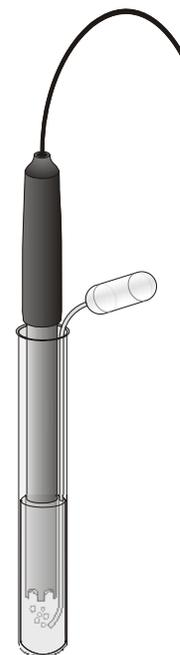

Figure 4
14. Insert the long-stem pipet labeled “CO₂” into the test tube, alongside the pH Sensor, so that its tip extends into the water to the bottom of the test tube, as shown in Figure 4.